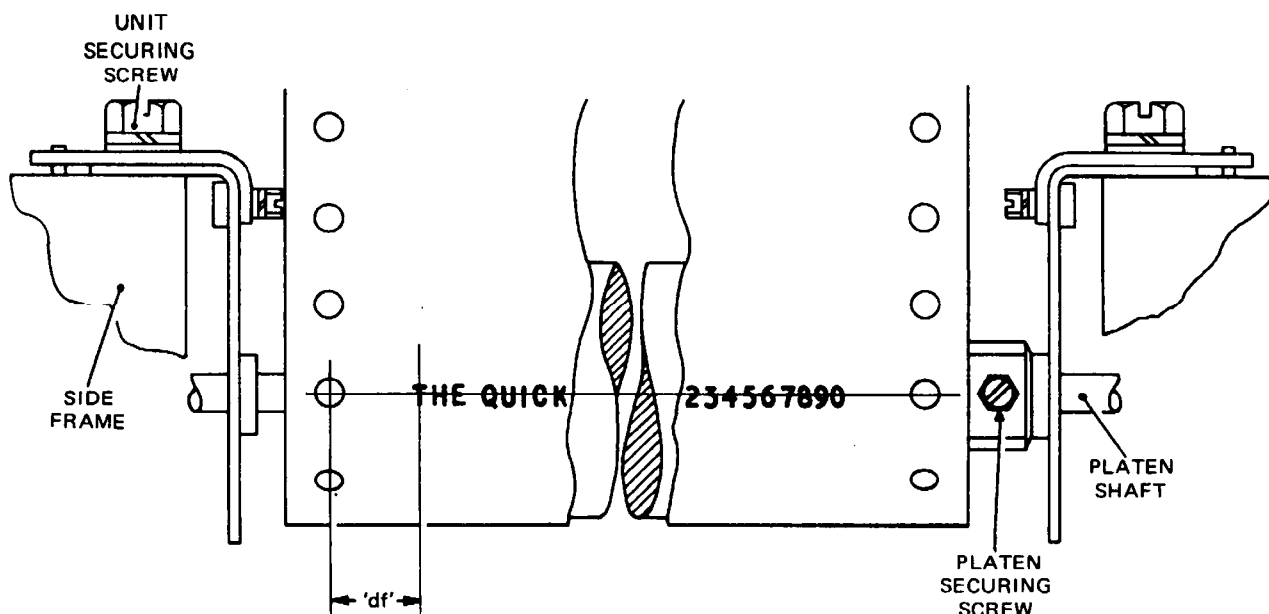

Fig. 4.119 SPROCKET-FEED PLATEN
- 127.1 Check that the distance between the centre-line of the first printed character and the centre-line of the left-hand sprocket holes (dimension 'df' of Fig. 4.119) is 0.490–0.510 inch.
- 127.3 Check that the centre-line through a line of printing is within 0.020 inch of a centre-line through a sprocket hole on each side of the paper, as shown in Fig. 4.119.